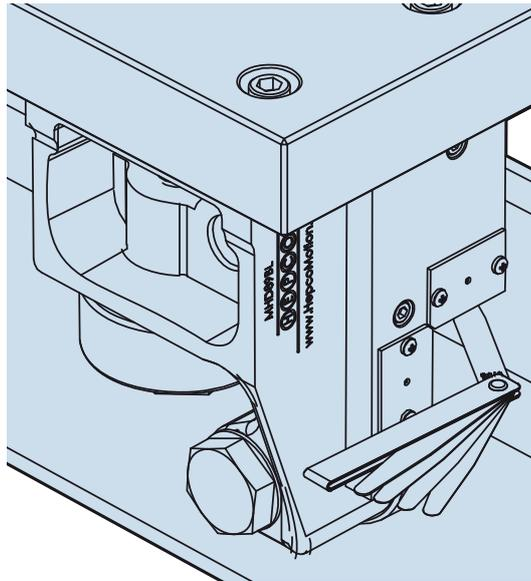

Figure 8
27. Position the three scraper plates [Item 15] to have a controlled clearance of 0.05mm - 0.1mm from the track surface, using feeler gauges as shown in Figure 8. Fully tighten the fixing screws [Item 16] when positioned.